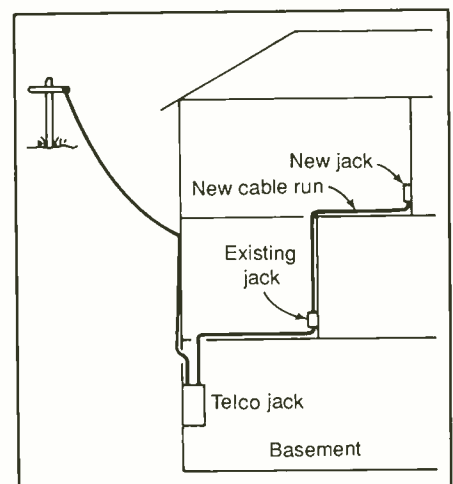

Fig. 10. A typical residential telephone wiring scheme.
(1) Choose a convenient location in which to mount the new modular jack. A secure surface, such as a wooden baseboard, is always a good choice. If you must mount the jack on a masonry surface (plaster, sheet-rock, etc.), secure it in place with plastic screw anchors. When deciding on a mounting location for the jack, always steer clear of ac wiring and plumbing, especially if you must drill through walls or floors. A typical installation is shown in Fig. 10.
(2) Decide now from where you are going to take the telephone signal. The easiest place may be an existing jack in another nearby room, a hall, etc. Route the cable that will connect the new jack to your existing telephone wiring along a path where you will be able to hide the cable if you can, or where it will not be ob-